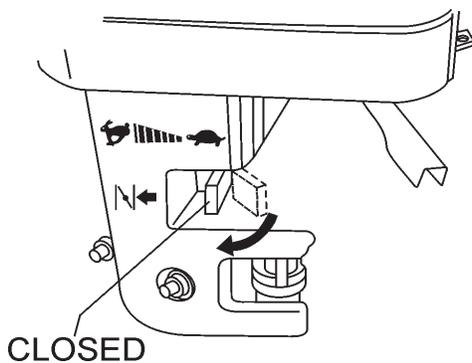

Figure 12. Choke Lever (Open)
- If the engine has started, slowly return the choke lever (Figure 12) to the “**OPEN**” position. If the engine has not started repeat steps 1 through 6.